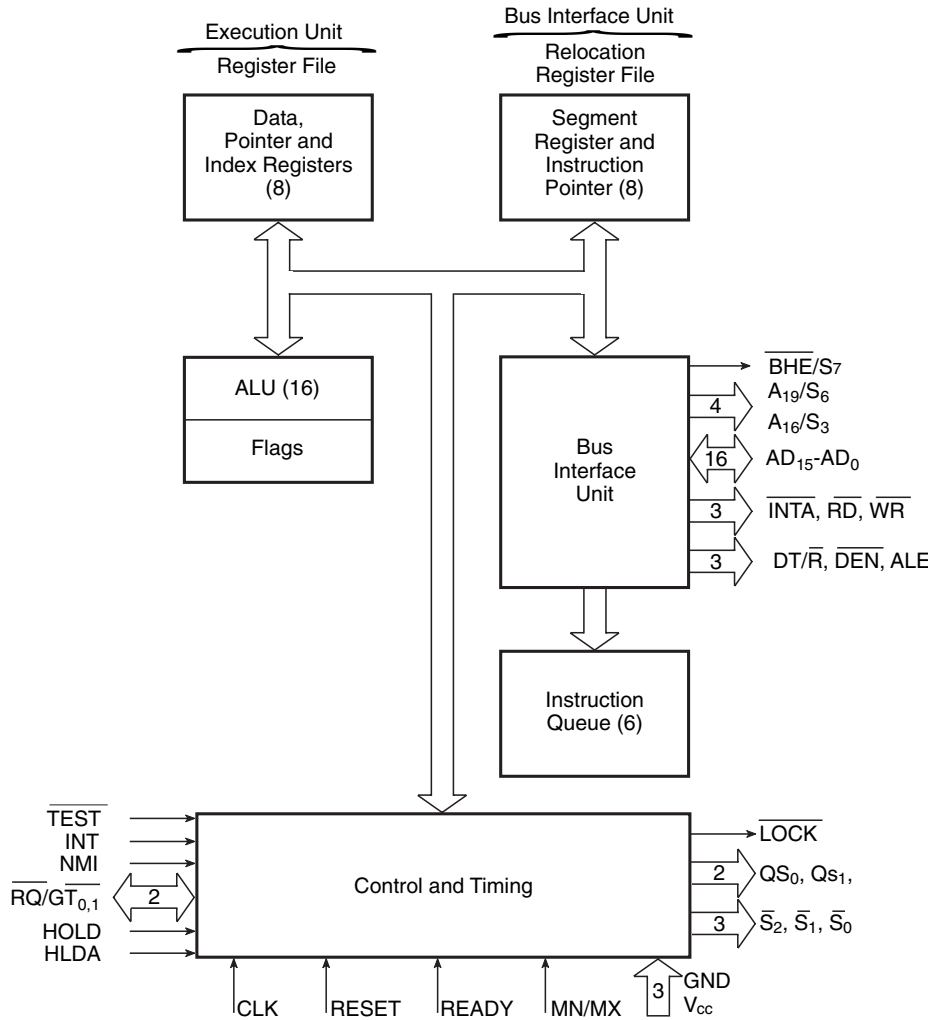

Figure 13.15 Block diagram of 8086.
This is a 16-bit microprocessor introduced by Intel. It was designed using HMOS technology and contains approximately 29 000 transistors. It has a maximum operating frequency of 10 MHz. The 8086, 8088, 80186 and 80286 microprocessors have the same basic set of registers and addressing modes. The 8086 microprocessor is available in DIP, CeraDIP and PLCC packages. Figure 13.15 shows a block diagram of 8086.
The internal functions of the 8086 processor are portioned logically into two processing units. The first is the bus interface unit (BIU) and the second is the execution unit (EU), as shown in Fig. 13.15. The BIU provides the functions related to instruction fetching and queuing, operand fetch and store and address relocation. It also provides the basic bus control. The EU receives prefetched instructions from the BIU queue and provides unrellocated operand addresses to the BIU.